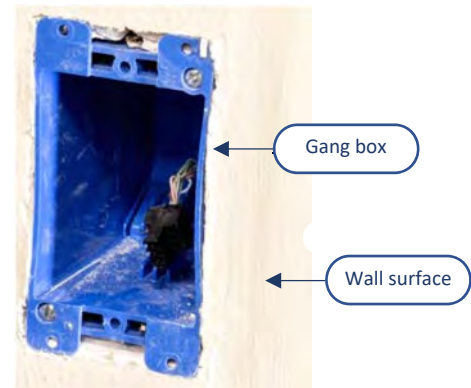

FIG. 2 EXISTING GANG BOX
- If the gang box already has an existing fixture or device installed in it, remove the fixture or device to expose the gang box (FIG. 2).